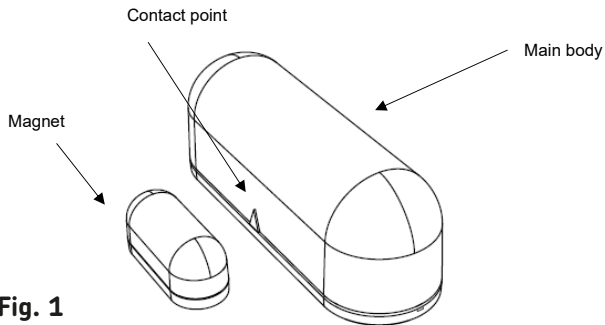

Fig. 1
- Ensure the main body of the sensor has the contact point facing towards the magnet (see Fig. 1)